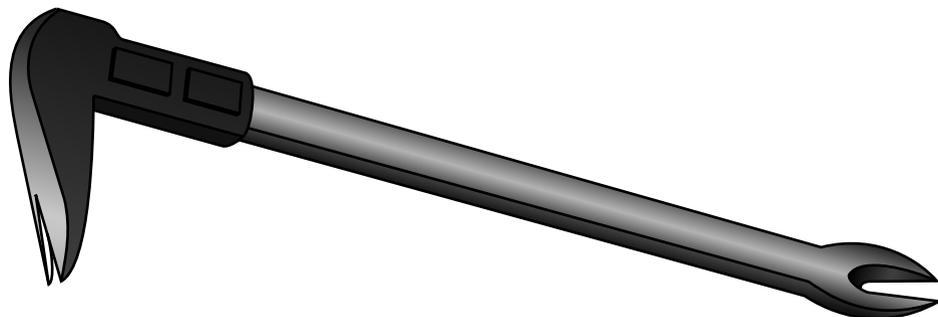

Figure 3-14: A cat's paw is the purr-fect tool for digging nails out of wood.
- ✔ **A cat's paw:** A cat's paw (see Figure 3-14) is a steel prying tool that works like a hammer's claw. Its exceptionally sharp ends can dig any nail out of a piece of lumber, even if it's fully embedded. It takes a nasty bite out of the wood in the process, but if you absolutely, positively have to get that nail out, sometimes there's no other way.